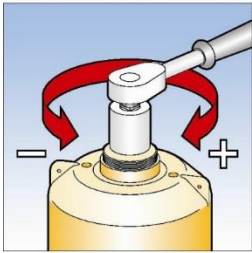

Fig. 6
5. For 100mm unit connect suitable spanner (27mm A/F) to hexagon of spring adjusting nut. See Fig. 6.